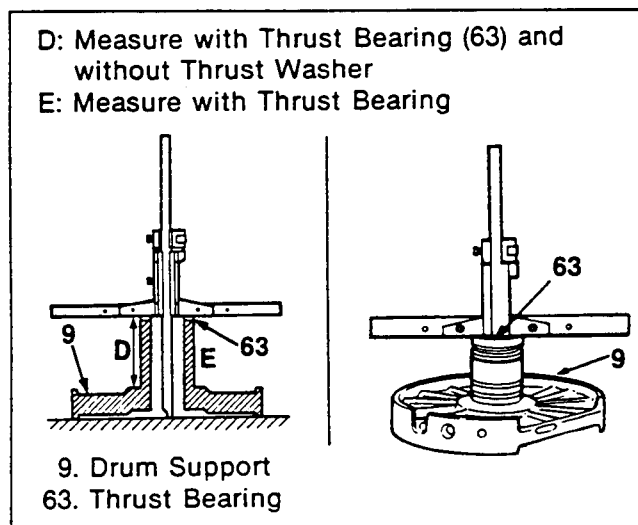

Figure 275. End Play Measurement (4)
8. Place the drum support onto a flat surface plate (figure 275).
10. Measure "D" and "E" with a depth gauge (figure 275).